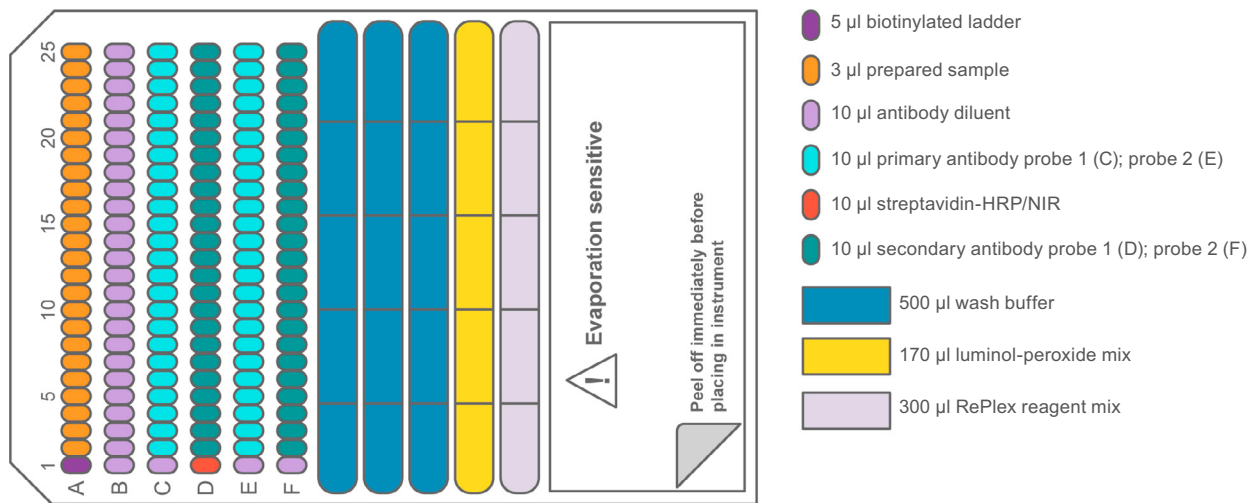

Figure 3: How to fill the Simple Western Jess plate for RePlex chemiluminescence analysis.
Equip the ASSIST PLUS with the 0.5-300 μ l D-ONE, and run the VIALAB program 'Jess_plate_setup_RePlex'. The ASSIST PLUS and D-ONE with 12.5 μ l long, sterile, filter GRIPTIPS transfer 10 μ l of antibody diluent from a 2 ml tube in Position B1 (**Figure 2**, lavender) to wells B1-B25, C1, E1 and F1 of the Jess plate (**Figure 3**) in Position C. A 1 μ l pre- and post-dispense guarantees precise pipetting while preventing bubble creation during dispensing. By automatically changing GRIPTIPS between different reagents or samples, the D-ONE transfers 10 μ l of primary antibody probe 1 from a 1.5 ml microcentrifuge tube in B2 (**Figure 2**, light green-1) to wells C2-C25 (**Figure 3**) of the Jess plate in Position C (**Figure 4a**). The D-ONE transfers 10 μ l of streptavidin-HRP/NIR from the second 2 ml screw cap vial in B1 (**Figure 2**, red) to well D1 (**Figure 3**). Wells D2 to D25 (**Figure 3**) are filled with 10 μ l secondary antibody probe 1 from a 1.5 ml microcentrifuge tube in B2 (**Figure 2**, green-1). 10 μ l primary antibody probe 2 is transferred from Position B2 (**Figure 2**, light green-2) to wells E2 to E25 (**Figure 3**), and 10 μ l secondary antibody probe 2 is transferred from B2 (**Figure 2**, green-2) to wells F2 to F25 (**Figure 3**).
Using 300 μ l sterile, filter GRIPTIPS, the D-ONE transfers 500 μ l of wash buffer (**Figure 2**, blue) from the 25 ml reservoir on Position A to the Jess plate compartments in 2 steps (**Figure 4b**), as indicated in **Figure 3**. A slow speed (5) prevents bubble creation during buffer dispensing. Afterwards, 170 μ l of luminol-peroxide mix is transferred from the 2 ml tube in B1 (**Figure 5**, yellow), and 300 μ l of RePlex reagent mix from another 2 ml tube in B1 (**Figure 5**, pink) to the compartments indicated in **Figure 3**. The D-ONE then transfers the RePlex reagent mix in 2 steps, with a pre- and post-dispense of 10 μ l to prevent bubble creation during dispensing.
5 μ l of biotinylated ladder is transferred from a 0.5 ml microcentrifuge tube in Position B3 (**Figure 2**, violet) to well A1 (**Figure 3**). As indicated by the arrow in **Figure 2**, the D-ONE transfers 3 μ l of prepared sample (**Figure 2**, orange) from each 0.5 ml microcentrifuge tube in Positions B4 to B6 (**Figure 2**, orange) to wells A2-A25 (**Figure 3**). Fast dispensing (speed 10) increases the accuracy for small volumes. The pipette then instructs the user to centrifuge the plate for 5 minutes at 2500 rpm, before proceeding with Simple Western Jess protein separation and immunodetection.